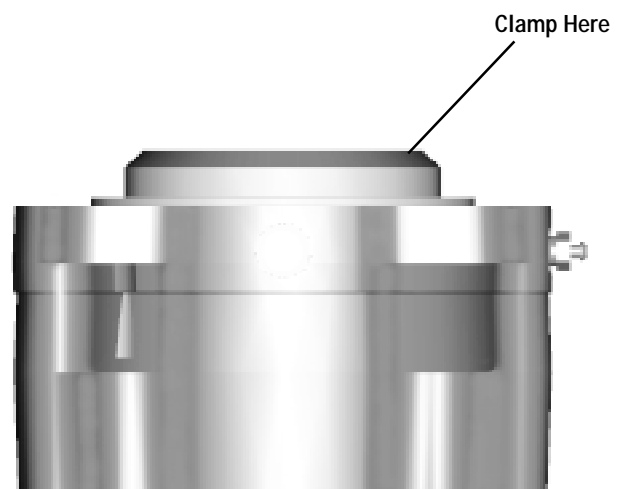

Figure 3
- 9 Remove **bearing-cone (18)**.
NOTE: Before **bolts (14)** are removed the brake assembly needs to be clamped together to compress the springs to help remove the **bolts (14)**, see figure 3.